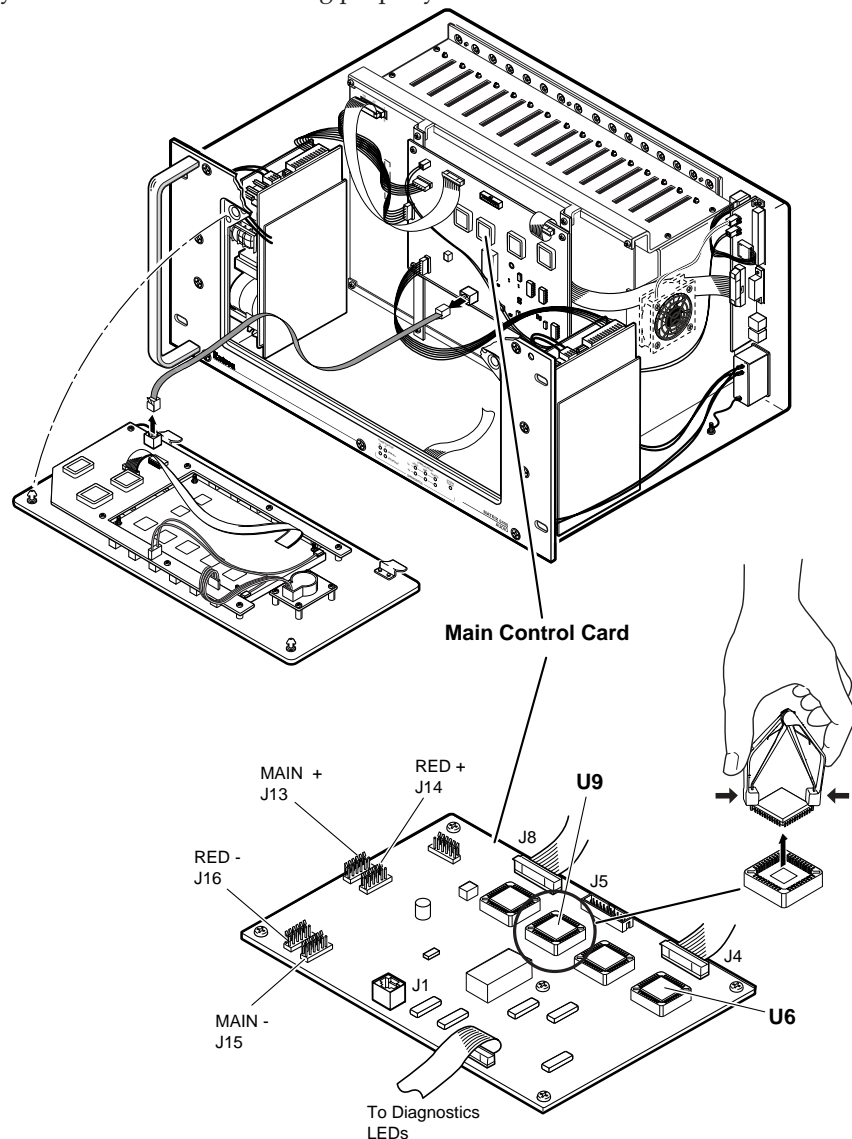

Figure 5-3.A Updating the Software IC on the Main Control Card
3. Use the PLCC IC puller (Figure 5-3.A) to remove the existing Software IC. Squeeze the tool to align the hooks with the slots provided in opposite corners of IC socket U9 or U6. Insert the hooks, squeeze gently and pull the IC straight out of the socket. Set the IC aside.
2. Remove the Access Panel on BME #0 (Page 5-3), locate the Main Control card (see Figure 5-3.A).